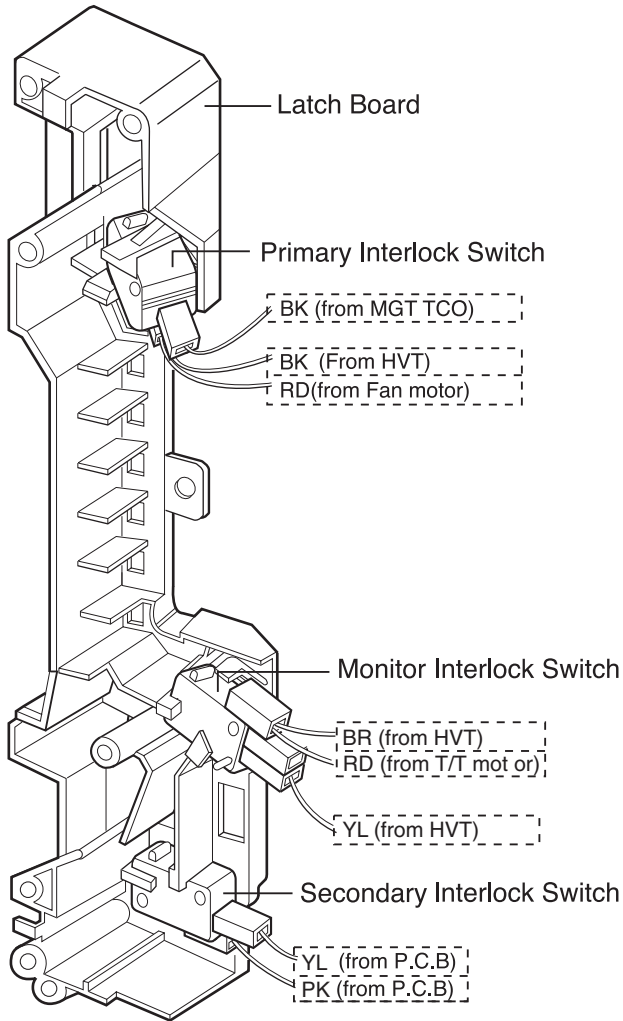

Figure 9
C. REMOVING THE DOOR INTERLOCK SWITCHES (Figures 9, 10)
- (1) Disconnect the wire leads from the interlock switches.
- (2) Remove the two screws securing the Latch Board.
- (3) Make any necessary replacements and check for microwave energy leakage according to ADJUSTMENT PROCEDURES on page 7-12.